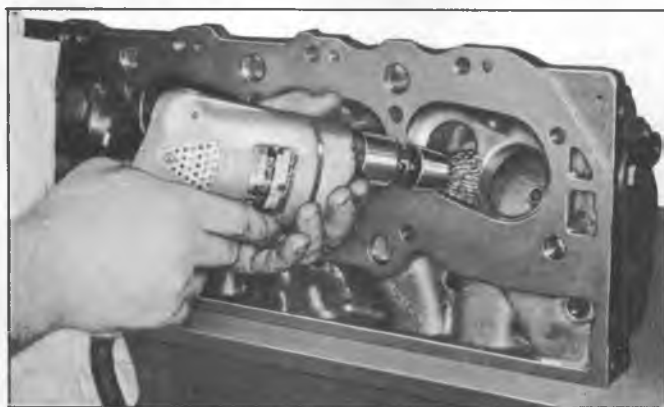

Fig. 14-Cleaning Combustion Chambers
1. Clean all carbon from combustion chambers and valve ports using Tool J-8089 (fig. 14).